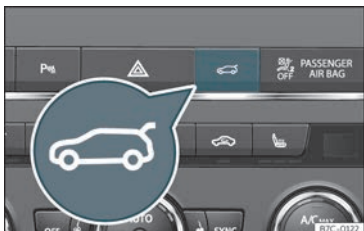

Fig. 84 Centre console: button to open and close the rear lid.
- **OR:** press the button on the centre console for at least one second»» Fig. 84. The button also works when the ignition is switched off.
- **OR:** press the  button located on the centre console until the rear lid is closed »» Fig. 84.